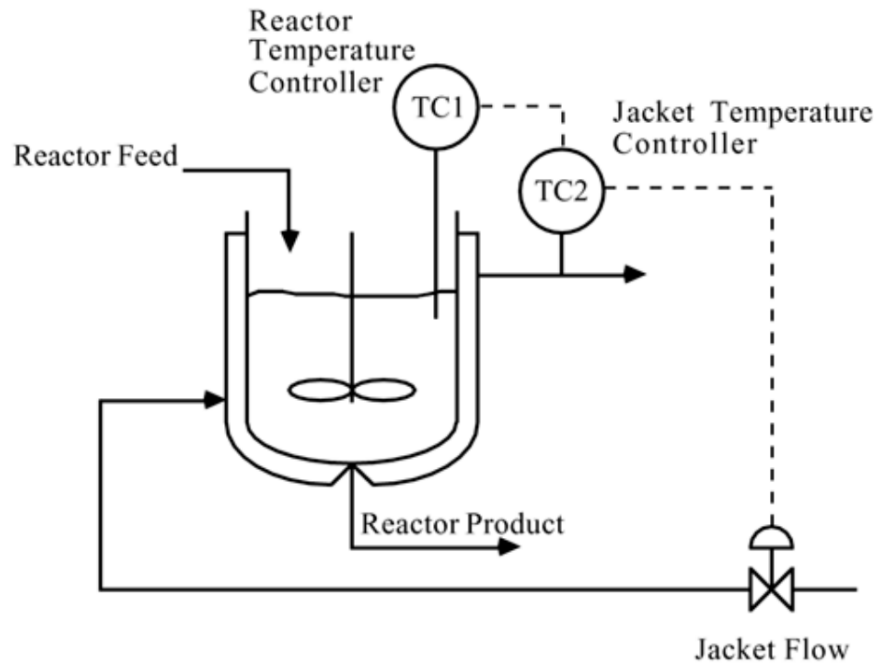

Figure 1: Cascade-control applied to a CSTR
1. A physical example (temperature control of a jacketed CSTR) is shown in Figure 1. The output of the primary controller (reactor temperature) is the setpoint to the inner-loop controller. The manipulated variable for the secondary loop is the jacket flow rate. If the flow rate becomes constrained, or if the jacket temperature controller is not tuned tightly the jacket temperature will not closely match its setpoint, causing problems with the integral action in the primary loop. For simplicity, let the primary and secondary processes be represented by the following second-order transfer functions,